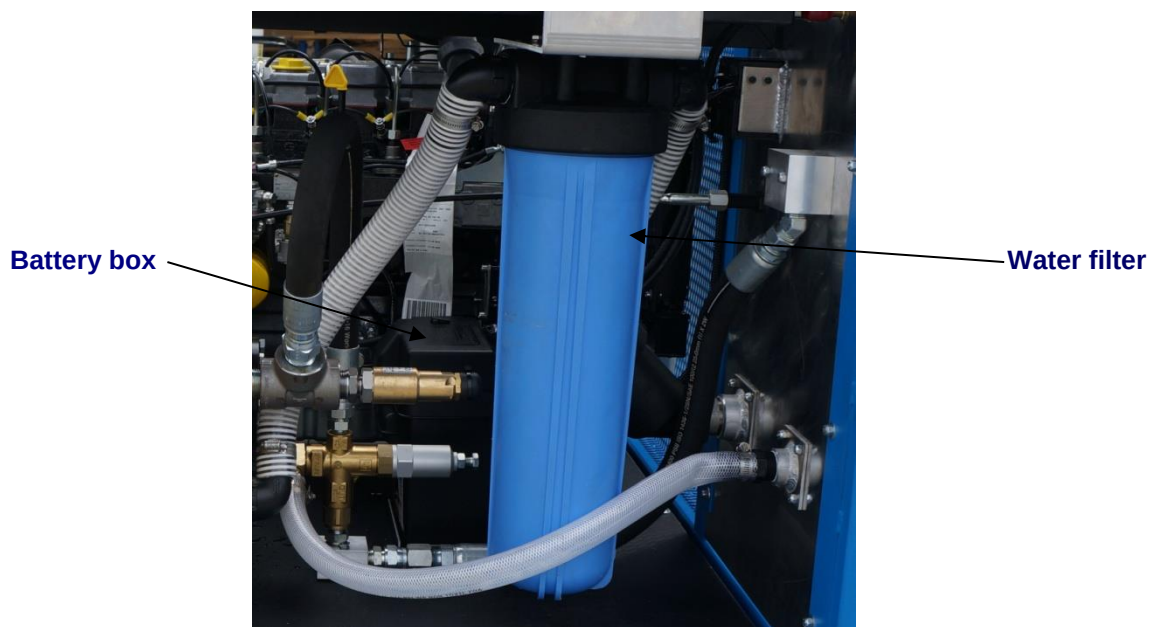

Figure 6.1 – Inspection / Cleaning Water Strainer/Filter
- 2) Unscrew and remove the strainer cap (turn CCW) (See Figure 6.1).
- 2) Unscrew the filter bowl from the filter head (turn CCW) (See Figure 6.1).